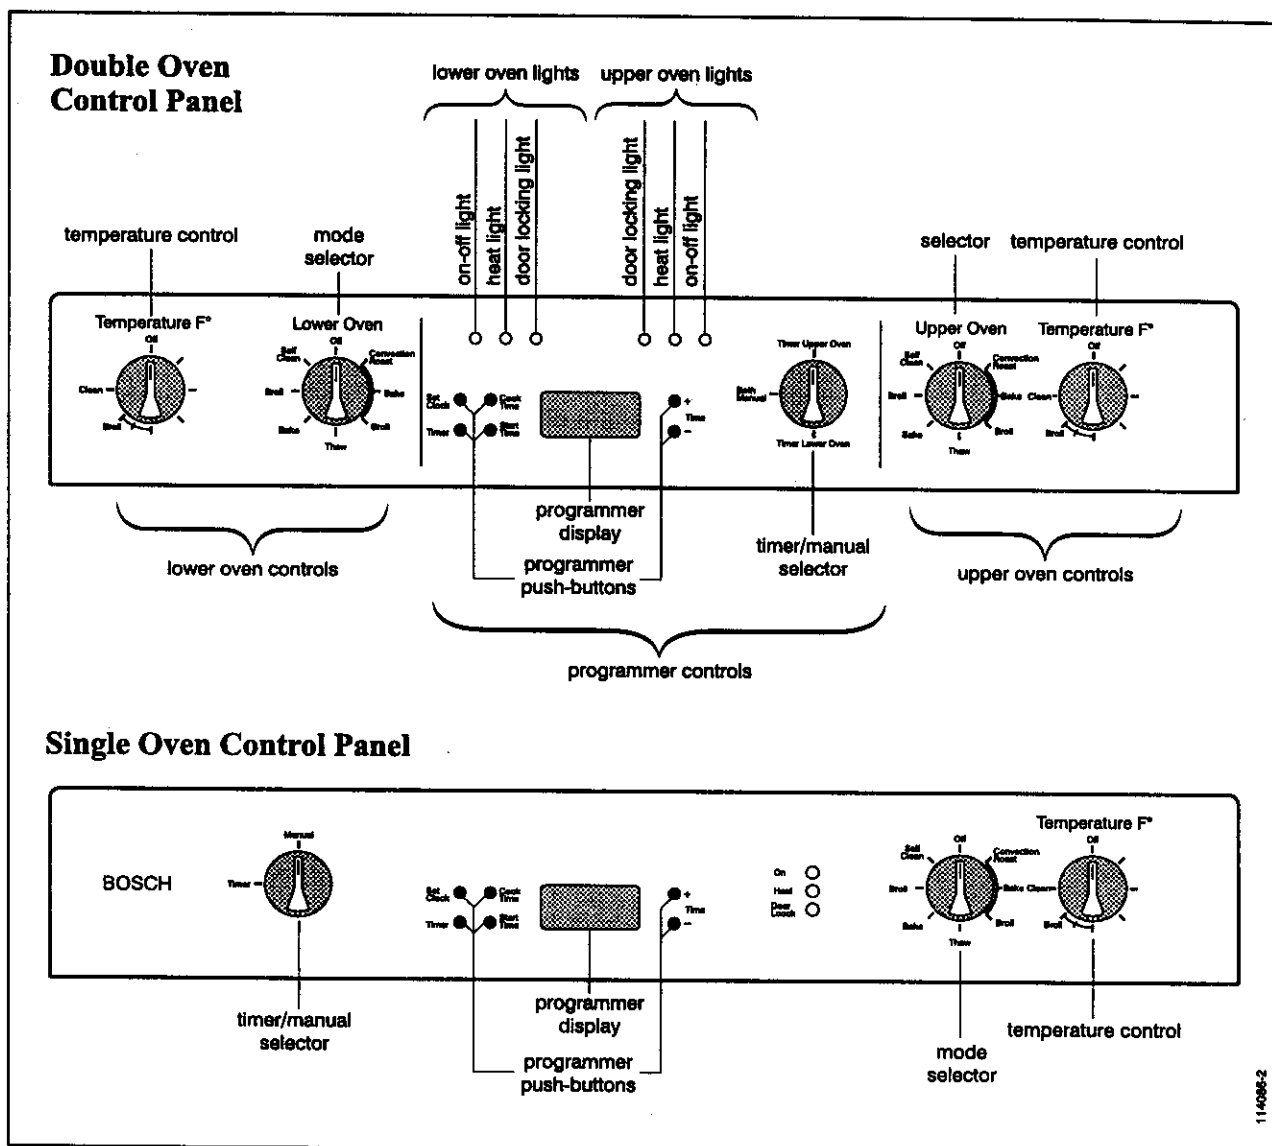
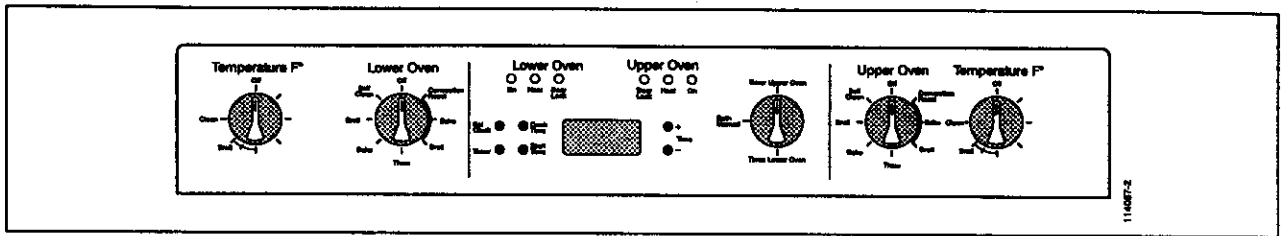

Figure 3.
Figure 7. Double Oven Control Panel, HBL/HBN66
All the ovens have the following controls, as shown in Figure 3:
The double oven control panel is the upper panel shown in Figure 3 and the single oven control panel is the lower panel shown.
For manual operation of the oven set the Timer/Manual Selector knob (see Figure 3) to **Manual**. If you have a double oven, as shown above (Figure 7) you have three setting positions available:
1. Set Mode selector knob for the oven to the cooking mode desired. Refer to Figure 3 and Table 3 if you are not sure which of the knobs on your oven is the selector knob or which function you wish the oven to perform.
3. Set the Timer/Manual Selector (Figure 3) to Timer for the single oven or to **Timer Upper Oven or Timer Lower Oven** for double oven, so that oven programmer is enabled for the oven you wish to use in programmed operation.